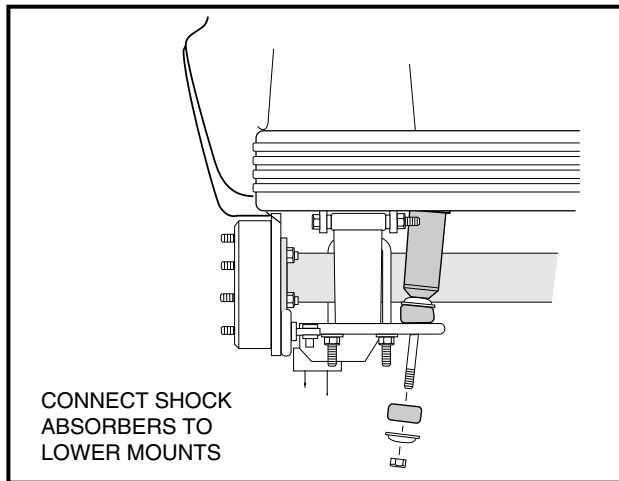

FIGURE 10-94
15. Position shocks in the shock mounts and install cushions, mounting washers and nuts (**Figure 10-94**).